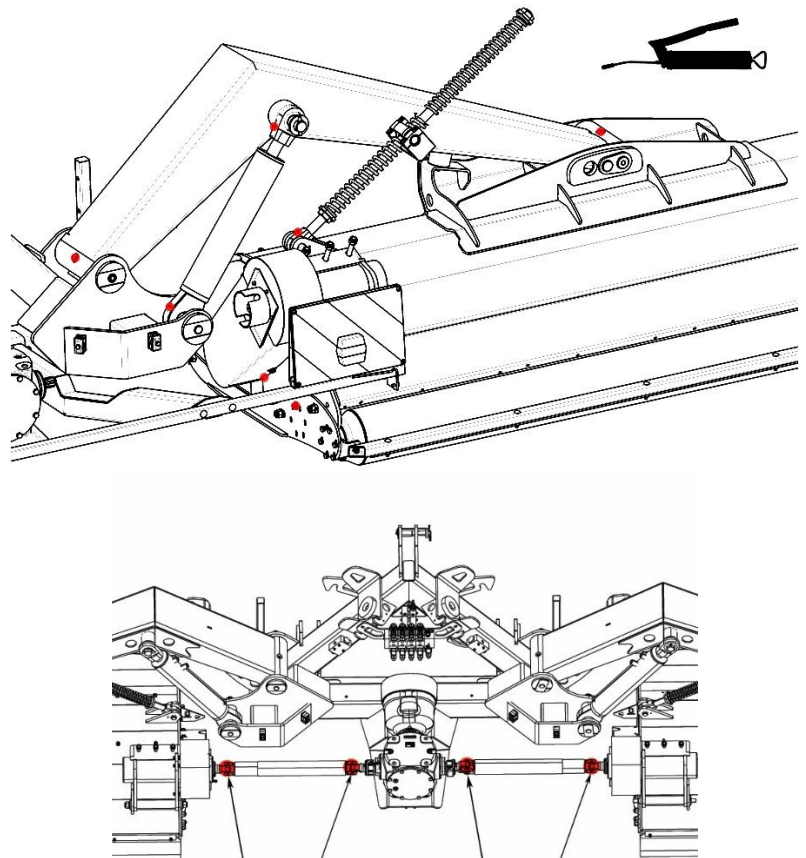

Figure 23: Greasing points on the machine
- The greasing points are lubricated (Figure 23).